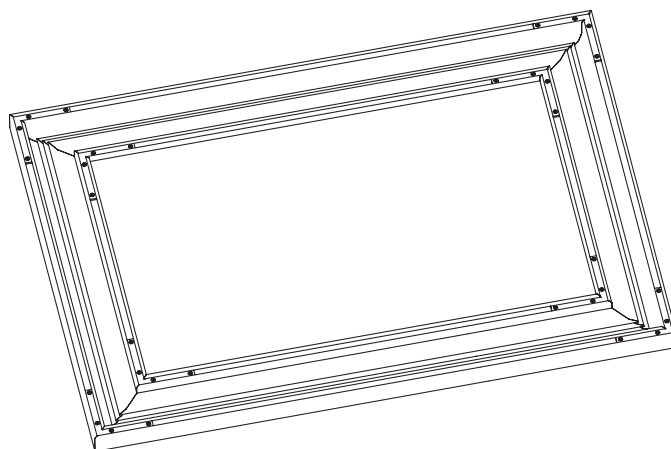

Figure 7
- ④ Repeat steps 1-3 for the remaining corners (see Fig. 7).